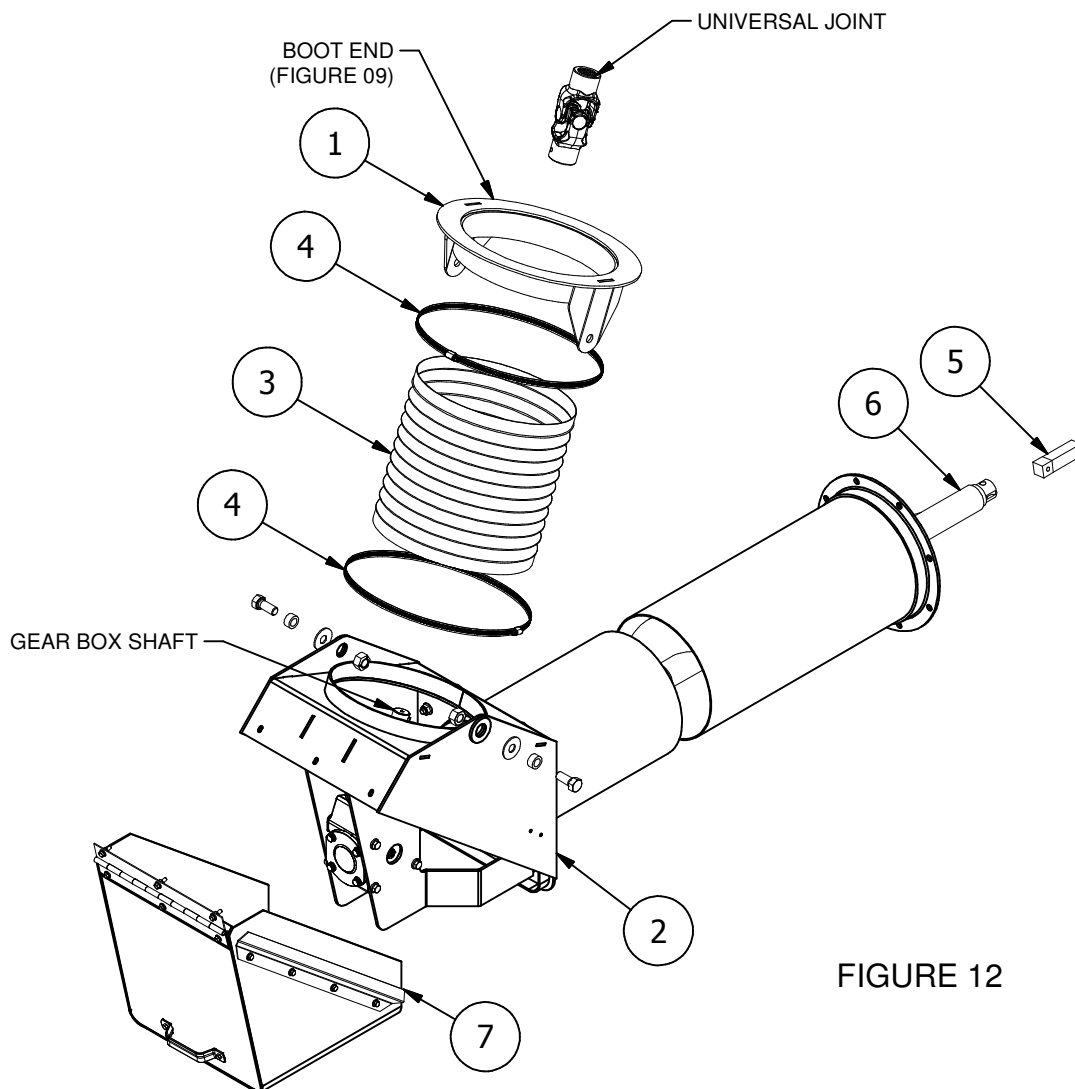

FIGURE 12
7. Assemble **FEED TUBE ASSEMBLY** and **HOPPER ASSEMBLY** (**FIGURES 12 and 13**) with eight $\frac{3}{8}$ " x $1\frac{1}{4}$ " whiz bolt